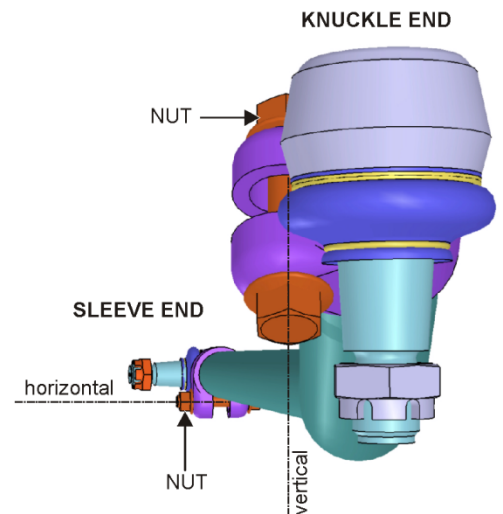

FIGURE 13: NOTE THE HORIZONTAL ORIENTATION OF THE CLAMP BOLT AT THE
16. Once the proper length adjustment is done, tighten the front end ball joint clamp. To prevent interference between the ball joint clamp bolts with other components of the steering system, the clamp bolt must be positioned horizontally as shown on FIGURE 13. **Tighten the clamp nut to 118-133 lbf-ft.**